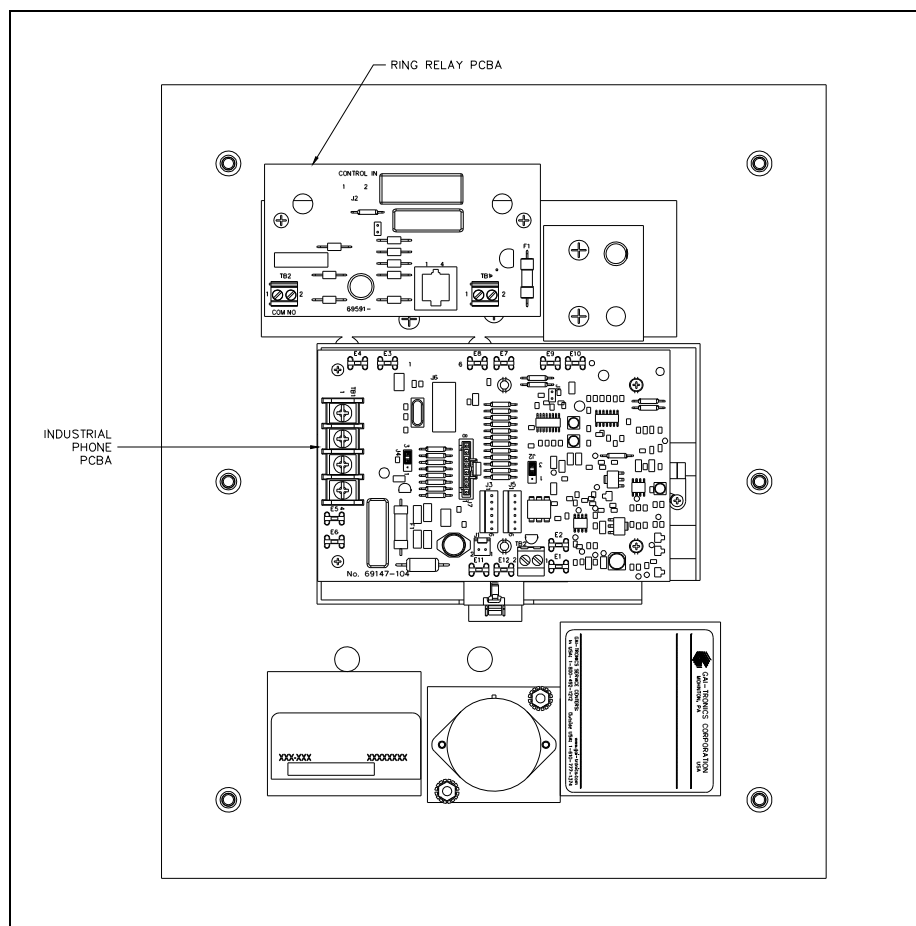

Figure 5. Model 276-001 Front Panel Interior
3. Screw two (provided) 6-32 × 1.25-inch F/F standoffs onto the two weld studs, on the back of the front panel (see Figure 5).
Note the orientation of the ring relay PCBA (see Figure 5).